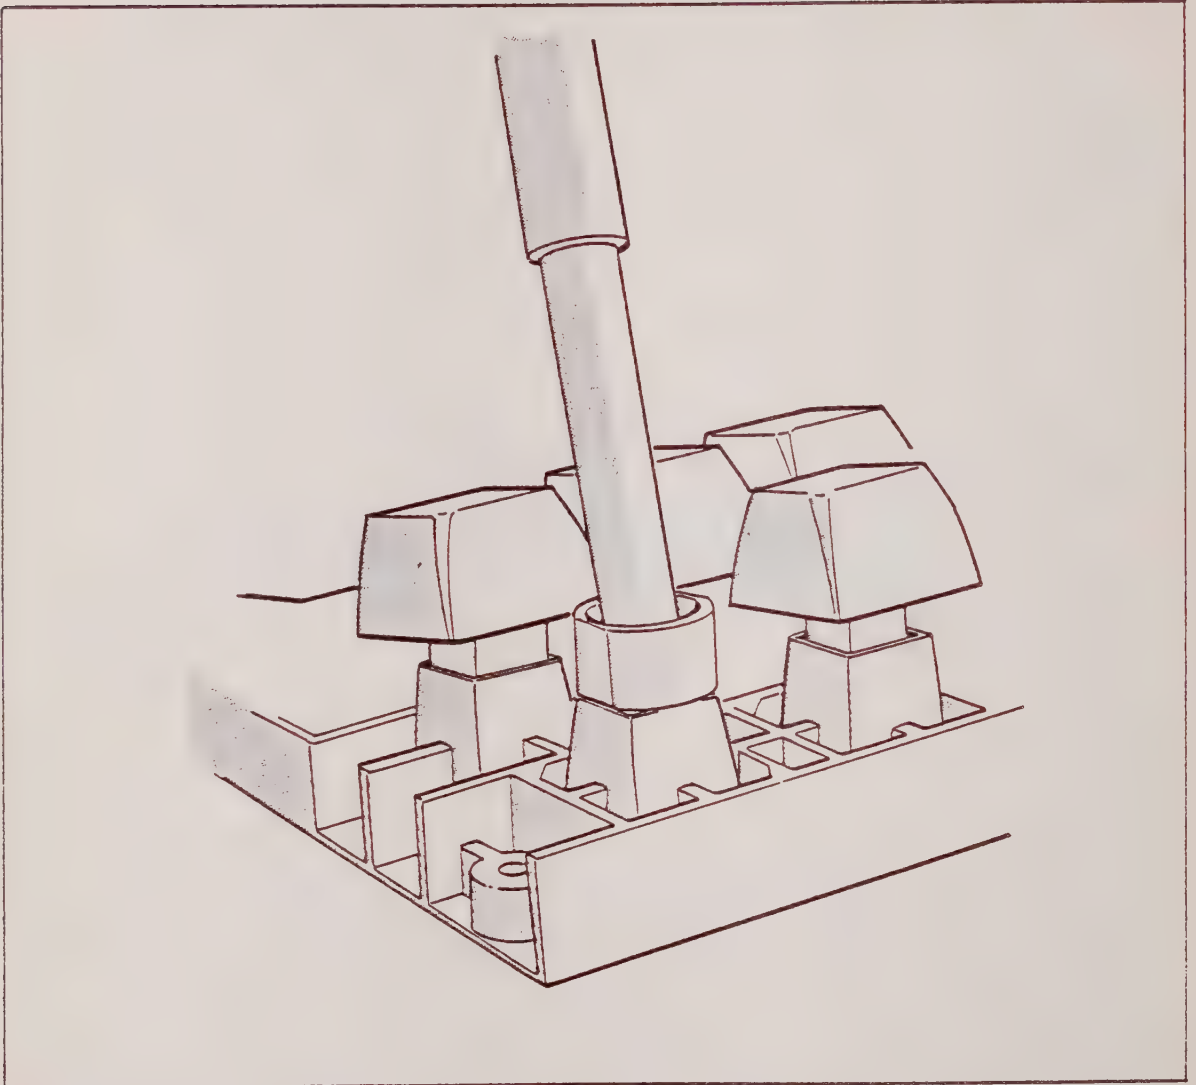

Figure 5-5. Placing The Insertion Tool Into The Guide
10. Place the insertion tool into the guide matching keyway slot and key. Press the tool firmly straight down until the contacts are seated and the tool clicks (see figure 5-5).